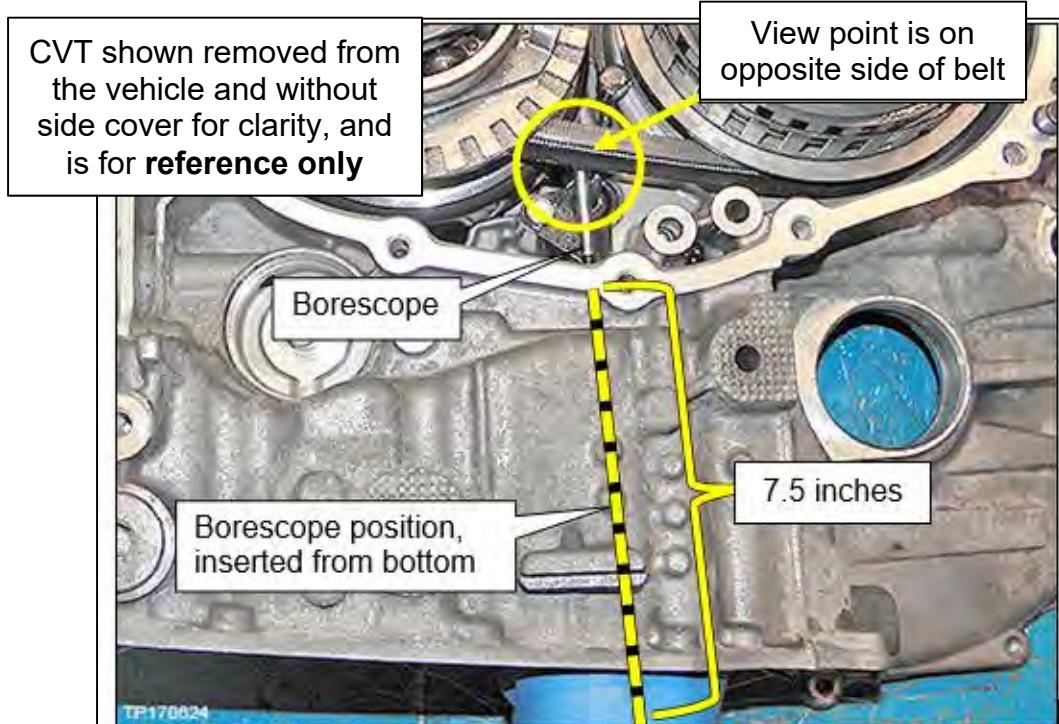

Figure 34
- Insert the lens approximately 7.5 inches from the CVT oil pan gasket surface as shown in Figure 34 on page 22.